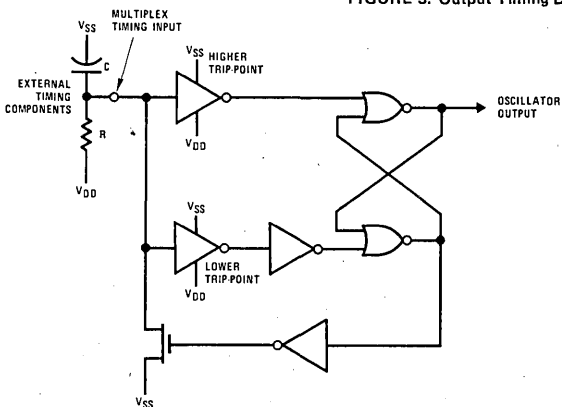
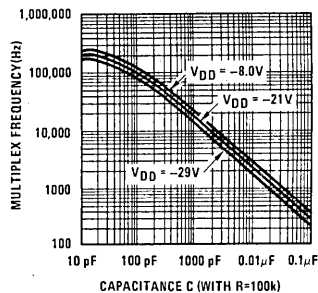
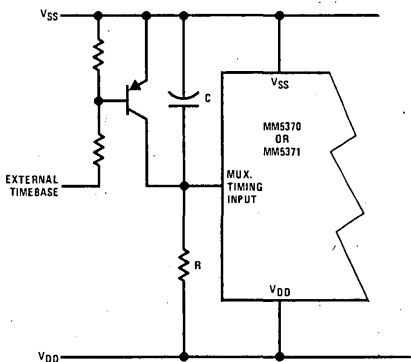

FIGURE 4. Multiplex Oscillator Circuit
FIGURE 5. Multiplex Timing Component Selection Guide (Typical Only)
FIGURE 6. Synchronizing or Driving Multiplex Oscillator
**Multiplex Timing Input (pin 14):** The multiplex oscillator is shown in Figure 4. Adding an external resistor and capacitor to this circuit via the multiplex timing input produces a relaxation oscillator. The waveform at this input is a quasi-sawtooth that is squared by the shaping action of the Schmitt Trigger in Figure 4. Figure 5 provides guidelines for selecting the external components relative to the desired multiplex frequency. Figure 6 illustrates a method of synchronizing or driving the multiplex oscillator with an external timebase. The external RC timing components may be omitted and this input driven by an external timebase; the required logic levels are the same as the 60 Hz or 50 Hz input.